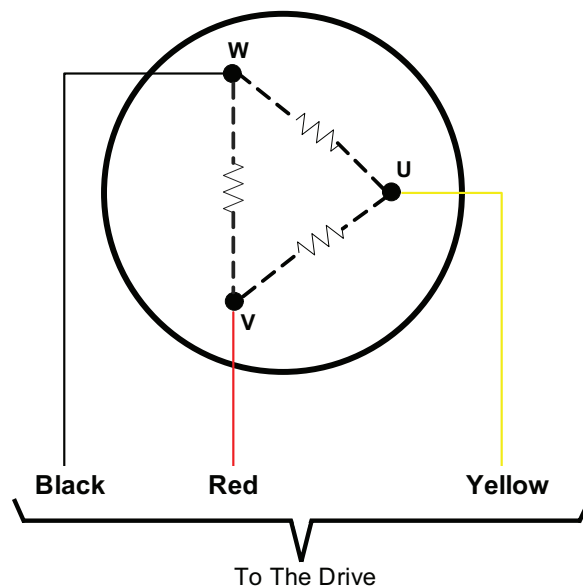

Figure 3
Table 2 lists the part number for the molded plug wiring harness that is required to wire the compressor to the Emerson Motor Control drive. The molded plug wire harness have an Ingress Protection (IP) 54 rating. The wire harness provides high voltage to the compressor from the drive. This harness is unshielded and should not exceed 60” in length. **Figure 3** illustrates the internal windings of the BPM motor. It is important to ensure correct wiring at both the compressor and drive connections prior to starting the compressor to avoid a mis-wire or powered reverse situation. Both situations could potentially cause compressor damage.